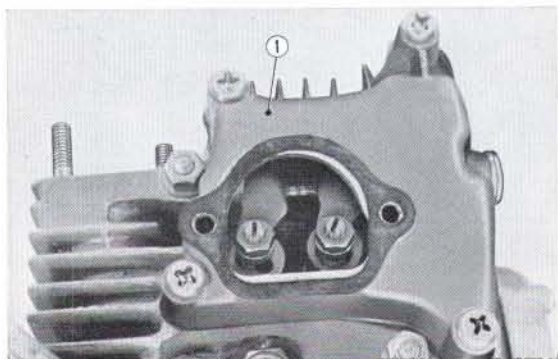

Fig. 2.5 ① Cylinder head cover
1. Remove cylinder head cover. (Fig. 2-5)